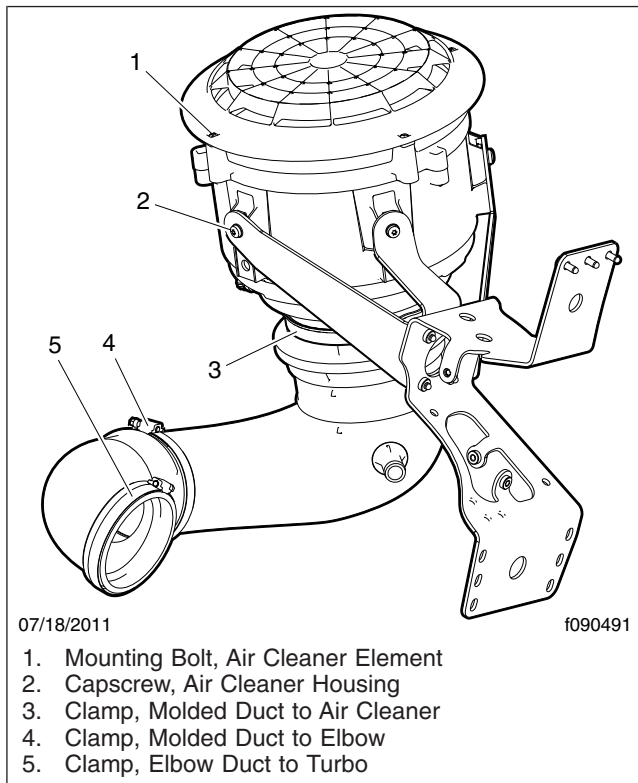

Fig. 2, Frontwall-Mounted Air Cleaner, 4700 Models
1. Ensure that the fasteners for the air cleaner element and air cleaner housing are tight. See Fig. 2.